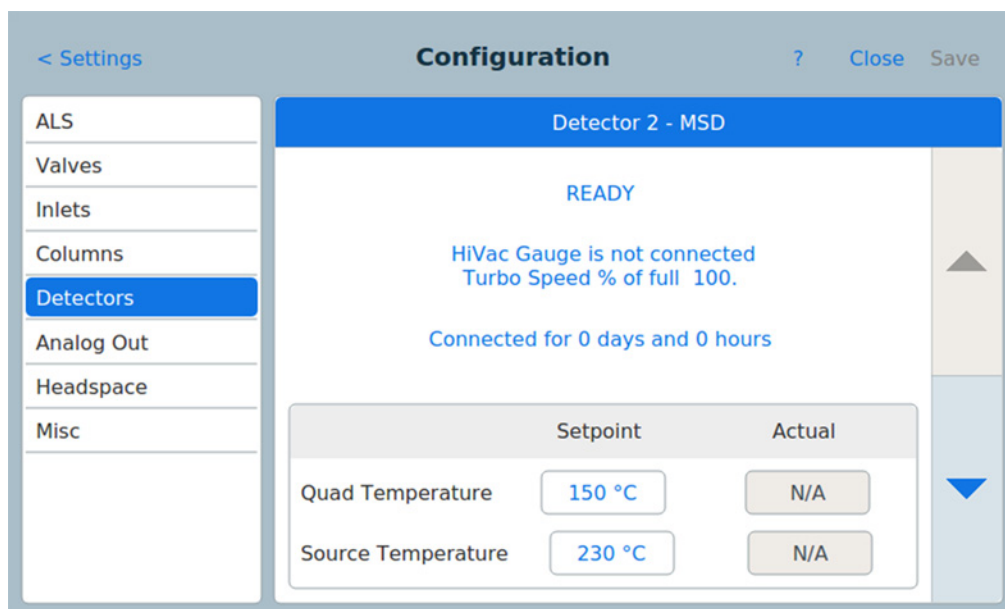

Figure 60 Detector MSD settings page
- 3 Press the **Detectors** device type from the list on the left side of the page. The properties for the selected device type appear on the right side of the page. See Figure 60.
- 3 Press the **Detectors** device type from the list on the left side of the page. The properties for the selected device type appear on the right side of the page. See Figure 60 on page 138.